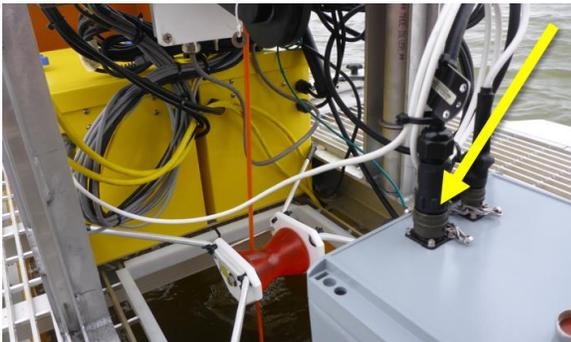

Figure 22. Attach Y-Cable to SUNA Radio Box at Buoy Sites
**STEP 6.2 | Buoy sites:** Attach the Y cable to the SUNA Radio Box 12-10 connector (**Figure 22**).